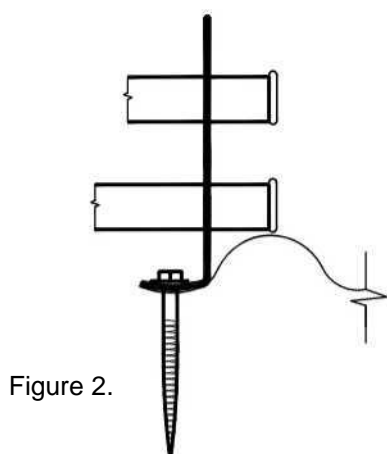

Figure 2.
- Install the PR-bracket plate by inserting it into the roof recess such that the PR-bracket plate is in a vertical position (Figure 2).
- Make sure that the RP-bracket plate parts are in the position shown in Figure 2.